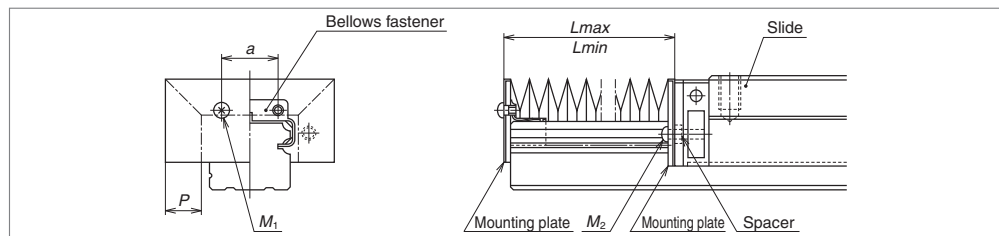

Fig. 6.7
### \* Installation in the ball slide (Fig. 6.7)
- Remove two machine screws ( $M_2$ ) which secure the end seals to the end of the slide (Fig. 6.7). For LS15, hold the end cap by hand. Otherwise, the end cap is detached from the ball slide, and the balls inside may spill out.
- To install bellows for SH, SS, LH and LS Series, lightly knock a fastener exclusively for bellows to the end of the rail (Fig. 6.7). Then secure the mounting plate at the end of the bellows through the tap hole of the fastener.